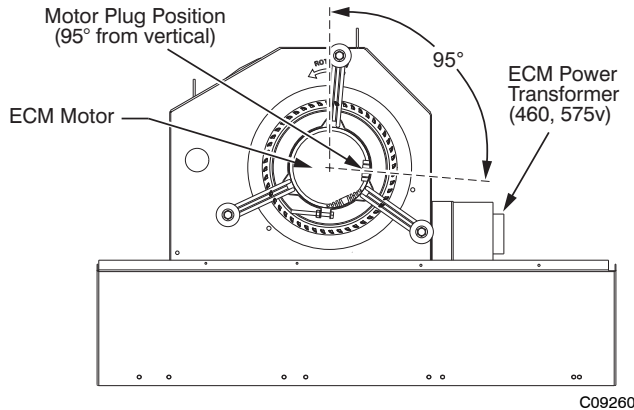
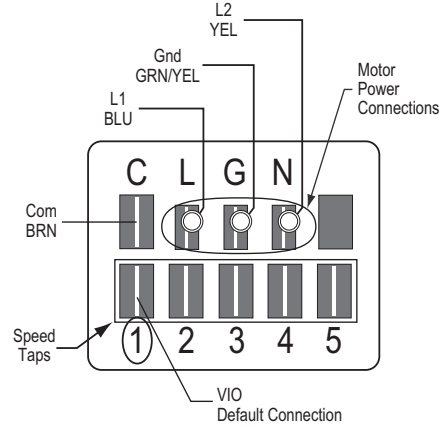

Fig. 3 - Direct-Drive Supply Fan Assembly
Fig. 4 - ECM Motor Connectors
For unit sizes 04, 05 and 06, a direct-drive forward-curved centrifugal blower wheel is an available option. The motor has taps to provide the servicer with the selection of one of five motor torque/speed ranges to best match wheel performance with attached duct system. See Fig. 3 and Fig. 4 .
208/230V units use a 230V motor. 460V units use a 230V motor with a stepdown transformer (mounted on the end of the fan housing, see Fig. 3). 575V units use a 460V motor with an autotransformer. Motor power voltage is
connected to motor terminals L and N (see Fig. 4 and Fig. 5); ground is connected at terminal G. The motor power voltage is **ALWAYS** present; it is not switched off by a motor contactor.
8. Ensure the motor terminals are located at a position below the 3 o’clock position (see Fig. 3). Tighten the motor belly-band bolt and torque to 80 in-lbs (9.0 Nm).